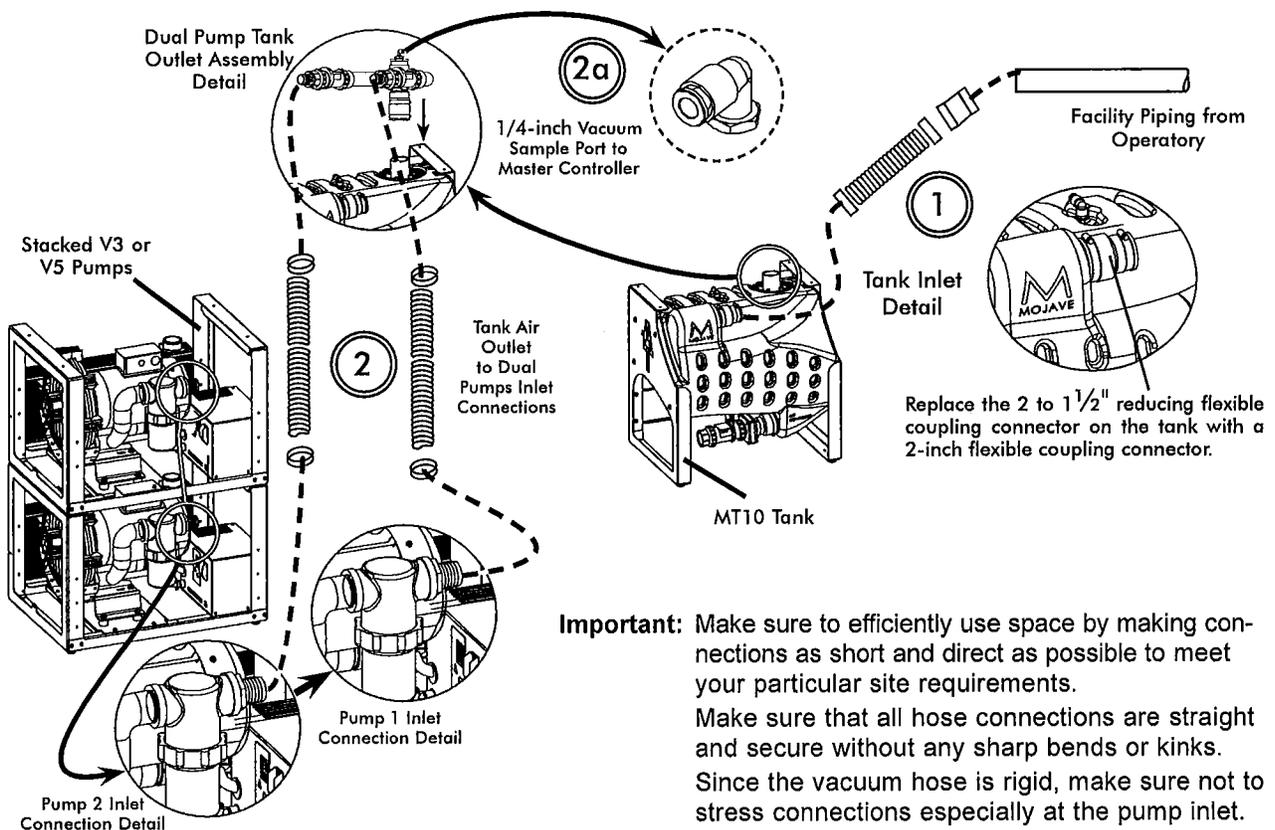

Figure 10. MOJAVE Dual Pump and Tank Connection Diagram, Sheet 1
- c. Install a length of 1/4 inch OD Urethane Tubing (P/N 51453) between the vacuum sample port and the vacuum inlet port of the Master Controller. See Figure 10, item (2a.)